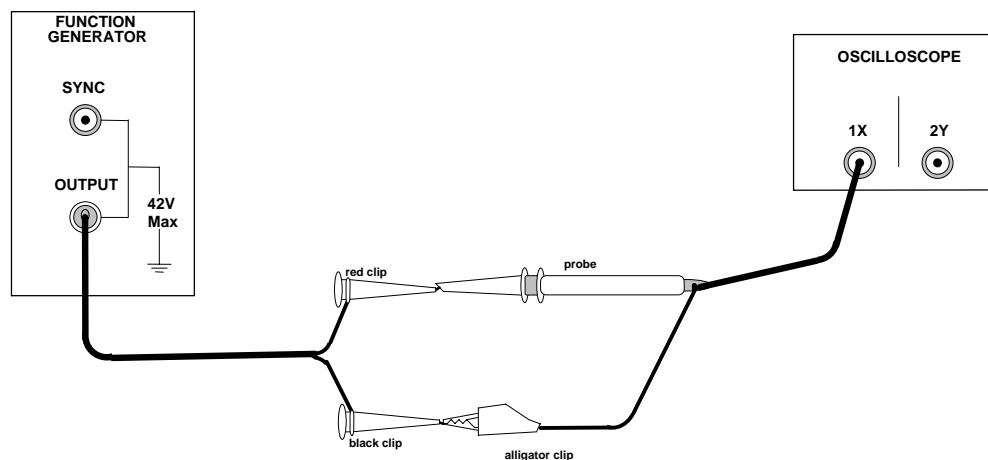

Figure 13. Connecting the function generator to the oscilloscope
- a. Connect the output of the function generator to the input channel 1 of the oscilloscope as shown in Figure 13.